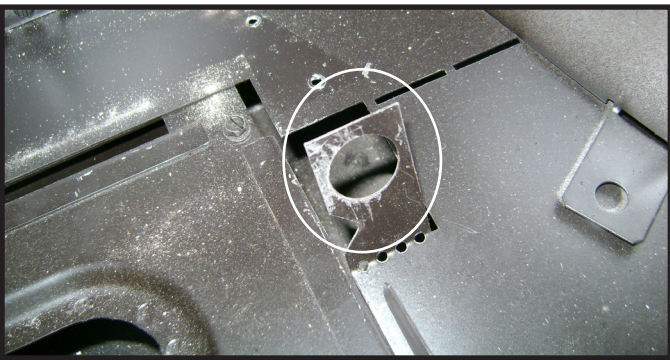

Figure 4.11 Grate Tab
- Bend down grate tab at the right of burner assembly. Assembly will slide out to the right. See Figure 4.11.